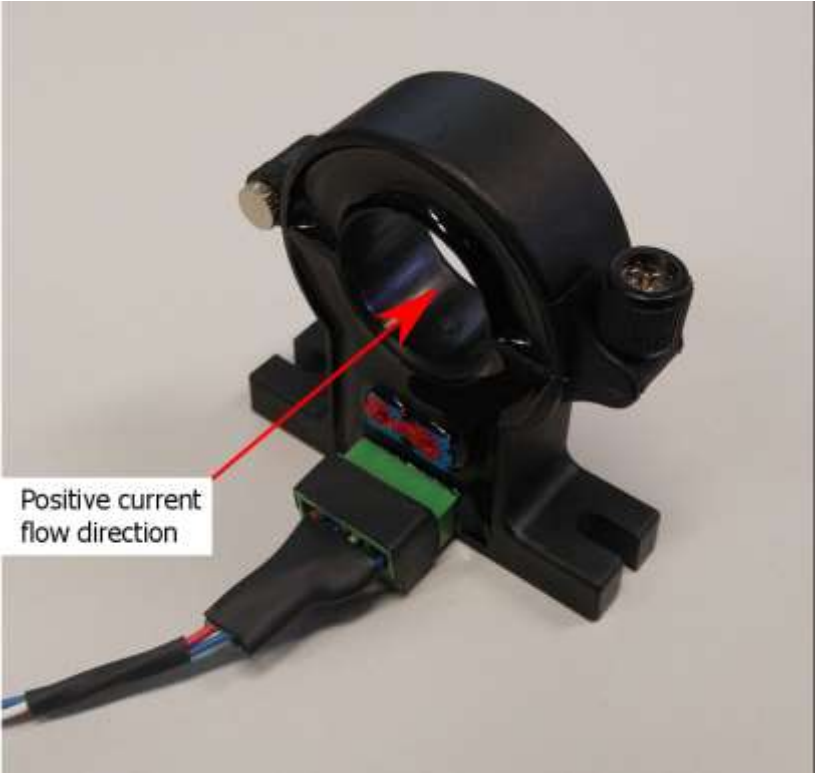

Figure 3: Hall sensor - positive current flow direction
- Place the positive lead cable from the battery through the open hall current sensor (refer to Figure 3 for positive current flow), close the frame and screw it back